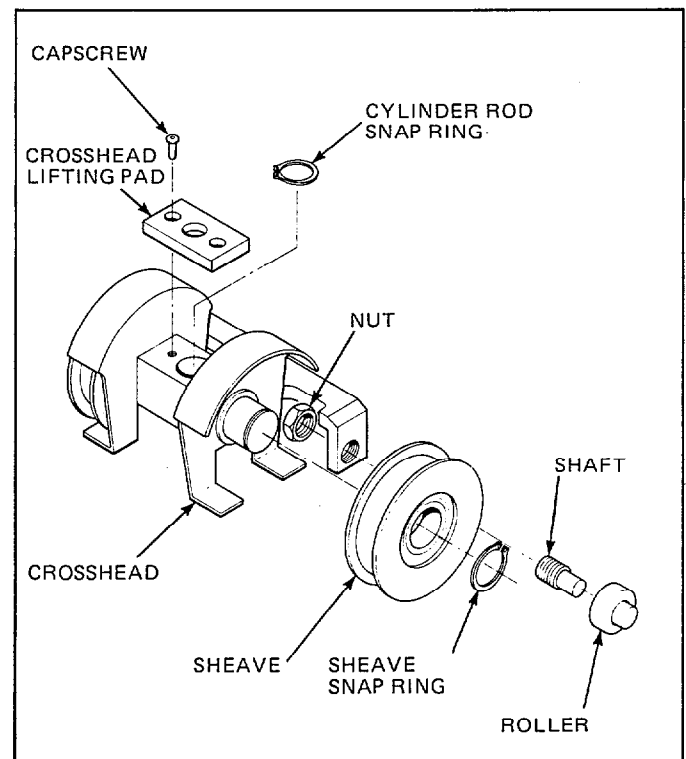

Figure 35. Crosshead Assembly
1. Assemble the crosshead chain sheaves in place on the crosshead assembly. See Figure 35.
6. Secure the crosshead to the cylinder rod using the snap ring. Refer to Figure 35.
7. Install the crosshead lifting pad. Refer to Figure 35.